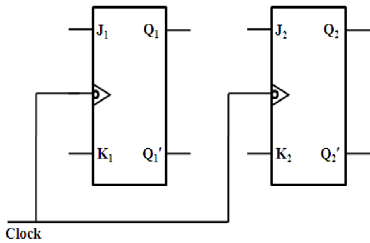

Fig. 1: Synchronous counter with JK flip flops
1. **Problem Statement:** A synchronus counter using two J-K flip flops that goes through the sequence of states: $Q_1Q_2 = 00 \rightarrow 10 \rightarrow 01 \rightarrow 11 \rightarrow 00$.. is required as mentioned in Fig. 1. We need to implement this sequencing logic in ide, assembly and avr-gcc using D-flip flops. The *state transitioning* decoder and *display* decoder are part of *combinational* logic, while the *delay* is part of *sequential* logic.